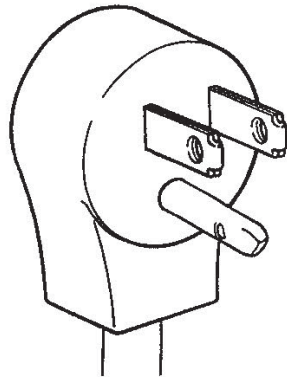

Figure 5. Electrical Plug
- F. Connect the power cord. The plug is designed for 115 volt/15 amp duty. The unit must be connected to a properly grounded receptacle. The electrical cord furnished as part of the freezer has a three prong grounding type plug (Fig. 5). The use of an extension cord is not recommended. If one must be used, use one with a size 12 gauge or heavier with a ground wire. **Do not** use an adaptor to get around grounding requirement.